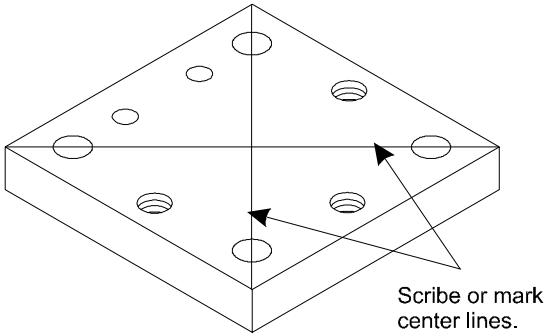

FIG. 6: MARKING TOP PLATE FOR INSTALLATION
- Step 2. We recommend scribing or marking a centerline on the top plate. (See Fig. 6)
- Step 1. You should have scribed or marked a centerline on the top surface of the top plate to locate the center. (See Fig. 6)